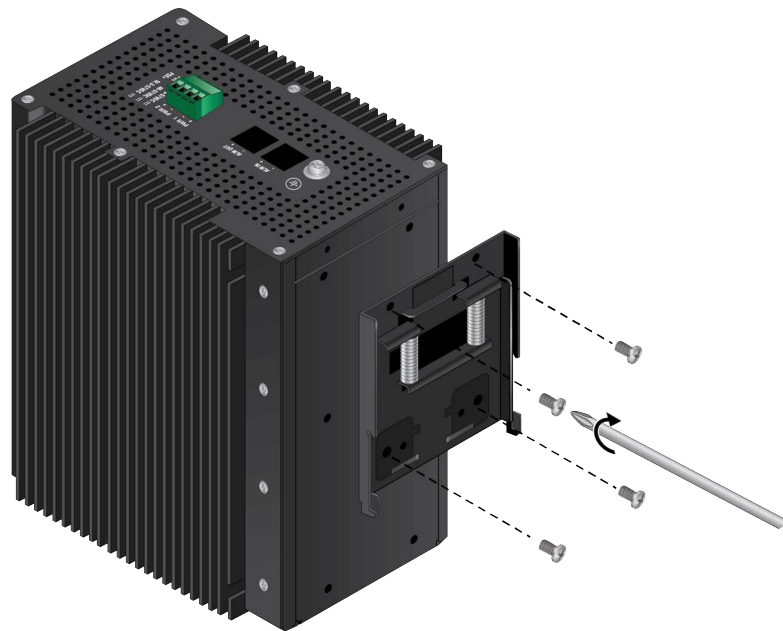

Figure 29. Removing the DIN Rail Bracket from the Switch
2. With a Phillips-head screwdriver, remove the four screws holding the pre-installed DIN rail bracket, and remove the bracket. Refer to Figure 29.
2. With a Phillips-head screwdriver, remove the four screws holding the pre-installed DIN rail bracket, and remove the bracket. Refer to Figure 29 on page 78.